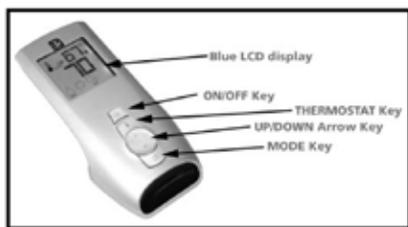
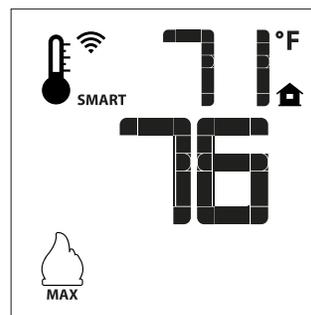
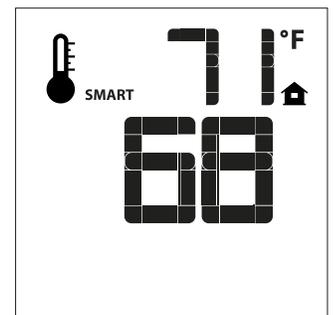

Figure 1 - Proflame Transmitter
Figure 6 - Smart Flame Function
Figure 7
The Proflame Transmitter uses a streamline design with a simple button layout and informative LCD display (Fig. 1).
A Mode Key is provided to Index between the features and a Thermostat Key is used to turn on/off or index through Thermostat functions (Fig. 1 & 2).
Press the ON/OFF Key on the Transmitter. The Transmitter LCD display will only show the room temperature and Icon (Fig. 7). At the same time the Receiver disconnects the thermopile from the gas valve millivolt coil and the appliance burner turns off. A single "beep" from the Receiver confirms reception of the command.
The Remote Control can operate as a room thermostat. The thermostat can be set to a desired temperature to control the comfort level in a room. To activate this function, press the Thermostat Key (Fig. 1). The LCD display on the Transmitter will change to show that the room thermostat is "ON" and the set temperature is now displayed (Fig. 5). To adjust the set temperature, press the Up or Down Arrow Keys until the desired set temperature is displayed on the LCD screen of the Transmitter.
The Smart Thermostat function adjusts the flame height in accordance to the difference between the set point temperature and the actual room temperatures. As the room temperature gets closer to the set point the Smart Function will modulate the flame down. To activate this function, press the Thermostat Key (Fig. 1) until the word "SMART" appears to the right of the temperature bulb graphic (Fig. 6). To adjust the set temperature, press the Up or Down Arrow Keys until the desired set temperature is displayed on the LCD screen of the Transmitter (Fig. 7).
If the appliance is equipped with a hot air circulating fan, the speed of the fan can be controlled by the Proflame system. The fan speed can be adjusted through six (6) speeds. To activate this function use the Mode Key (fig.1) to index to the fan control icon (Fig. 8). Use the Up/Down Arrow Keys (Fig.1) to turn on, off or adjust the fan speed (Fig. 9). A single "beep" will confirm reception of the command.
The auxiliary function controls the AUX power outlet on the Fan Control Module. To activate this function use the Mode Key (fig. 1) to index to the AUX icon (fig. 10 & 11). Pressing the Up Arrow Key will activate the outlet. Pressing the Down Arrow Key will turn the outlet off. A single "beep" will confirm the reception of the command.